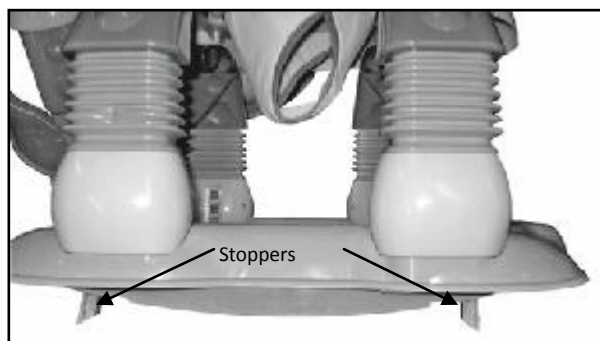

Figure 18
- To stop rocking action pull out both stoppers at the rocking bar and extend fully, as per **Figure 18**.